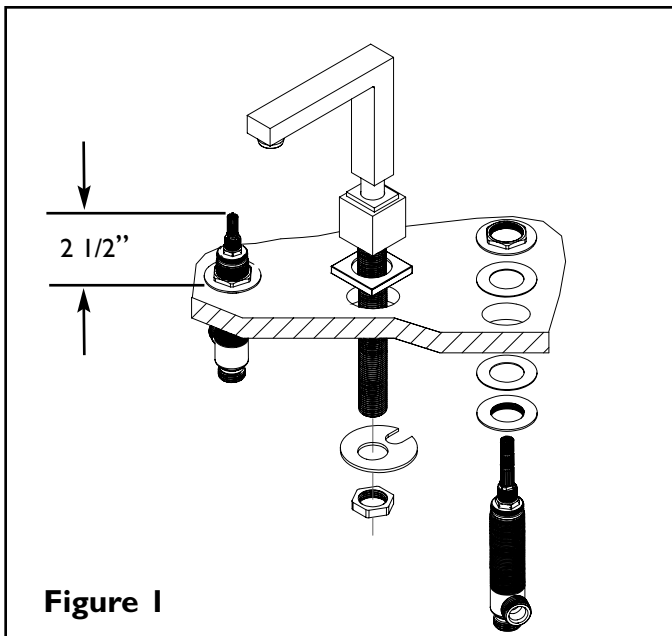

Figure 1
1. Place the spout shank through center hole of mounting surface. Secure spout, (spout base ring, if supplied), into place with spout washer and nut. See Fig. 1
2. Place nut & washer on valve body. Insert body, (blue cold & red hot), through hole in the mounting surface. Adjust and secure with additional washer and nut so that the top of valve is 2 1/2" above the top of mounting surface. See Fig. 1